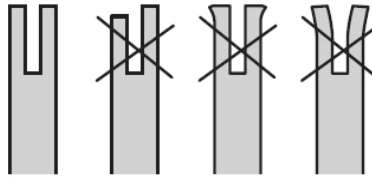

Fig. 36c
5. Check the guide bar 'rail' for wear: Hold a ruler (straight edge) against the side of the guide bar and 'cutter side plates'. If there is a gap between the ruler and guide bar the guide bar 'rail' is normal. If there is no gap (ruler flush against the side of the guide bar) the guide bar 'rail' is worn and needs to be replaced with a new one of the same type. (See Fig. 36c)